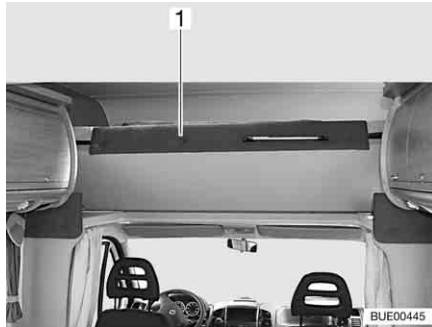

Fig. 111 Overcab bed, folded upwards
- Fold the front of the overcab bed (Fig. 111, 1) upwards. The overcab bed is kept in the upper position by gas-pressure springs.